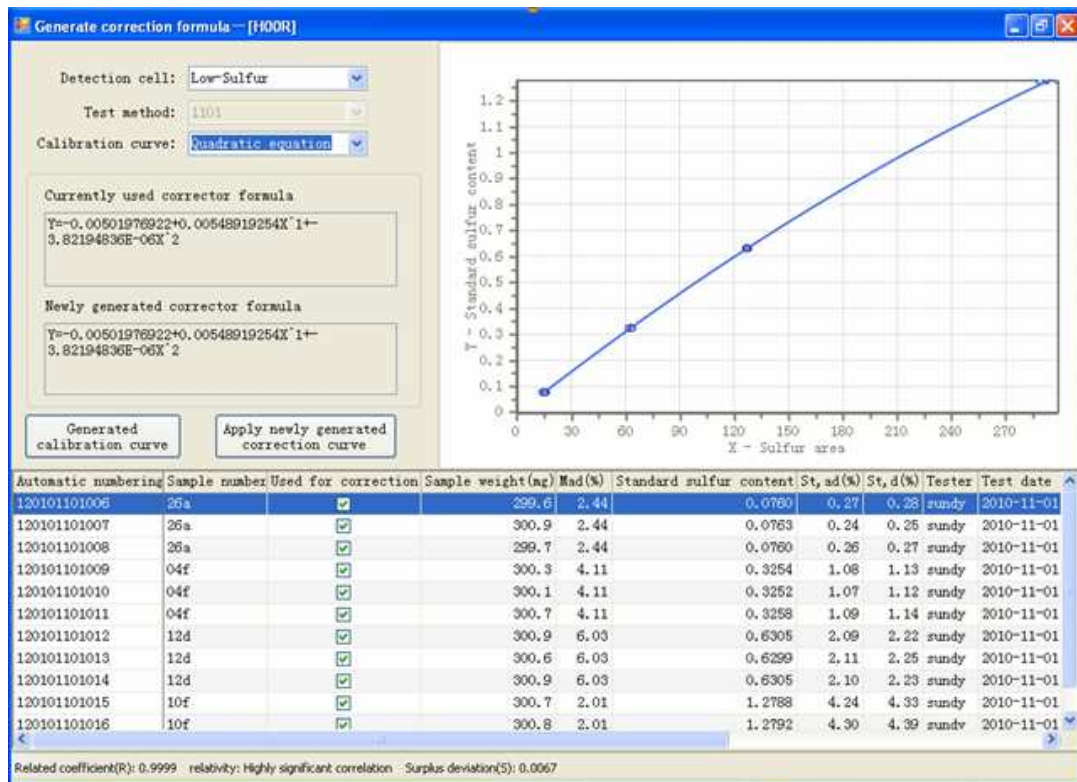

Fig. 5-1-7
**2.Generate correction formula:** Select the records that shall take part in the generating correction formula on the data display column, then click the item, popup the correction window as Fig. 5-1-7.